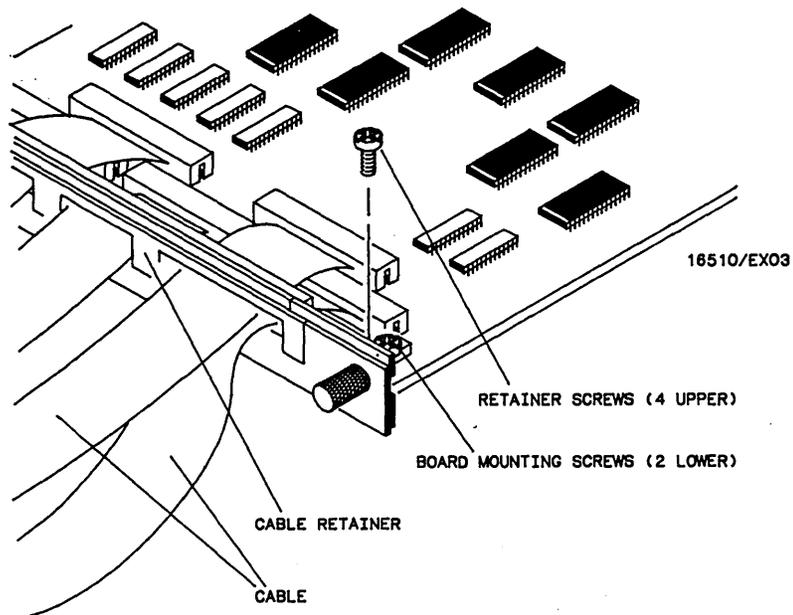

Figure 6-15. Retainer And Screws
- f. Using a No. 10 torx ® driver, remove four screws that hold cable retainer onto card. See figure 6-15.